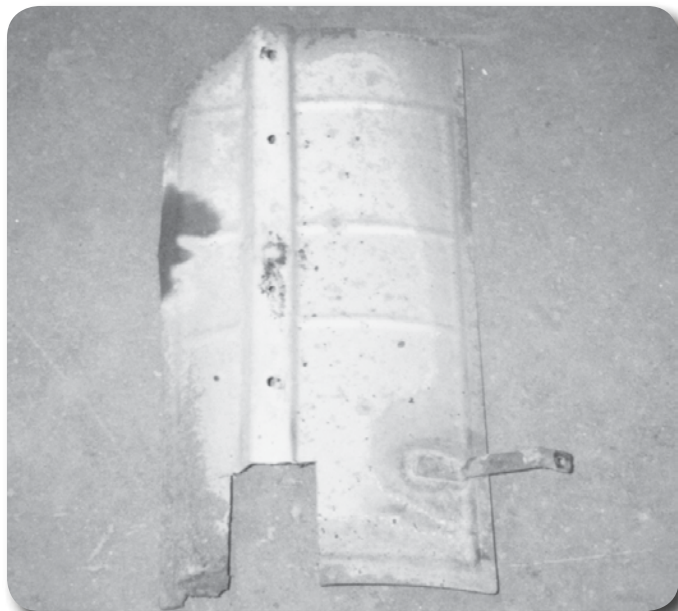

Figure 9
42. Remove heat shield and exhaust hanger. Trim heat shield and reinstall **Figure 9**.